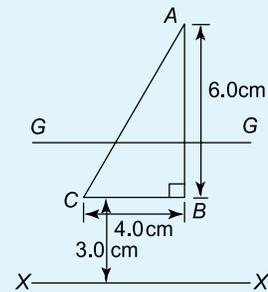

Figure 8.42
9. The second moment of area about axis XX of the triangle ABC shown in Figure 8.42 is:
10. The radius of gyration about axis GG of the triangle shown in Figure 8.42 is: